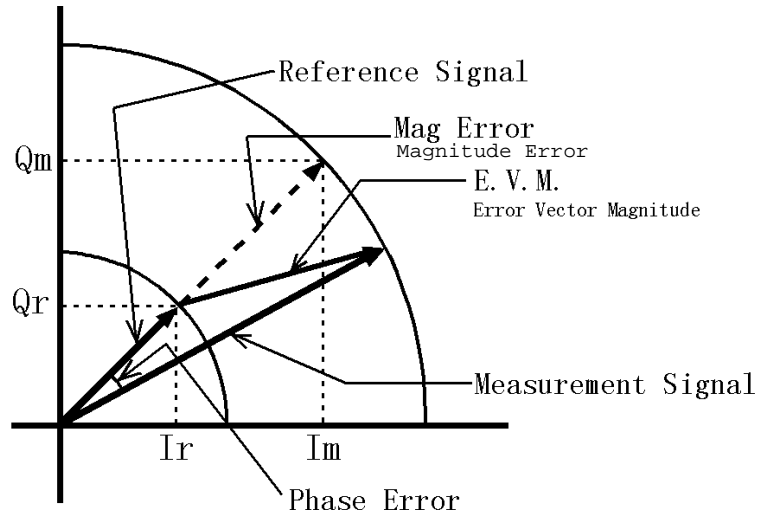

Figure 5-13 Mag Error, Phase Error, E.V.M.
Mag Error is defined as shown in Figure 5-13, and the value is calculated using the following formula.
Phase Error is defined as shown in Figure 5-13, and the value is calculated using the following formula.
E.V.M. is defined as shown in Figure 5-13, and the value is calculated using the following formula.